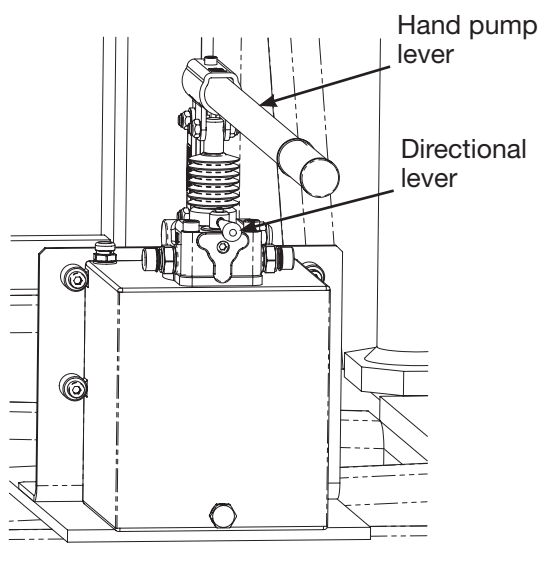

Figure 16: Pump on trolley
5. Use the hand pump (figure 16) on the Installation Trolley to raise the height of the machine until the centre height is slightly higher than the 'Blade Root'.